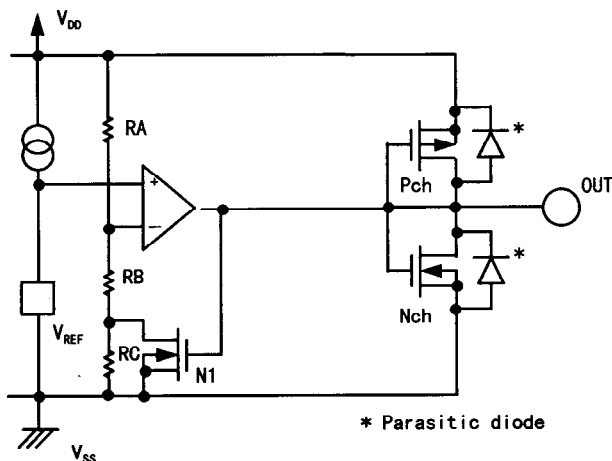
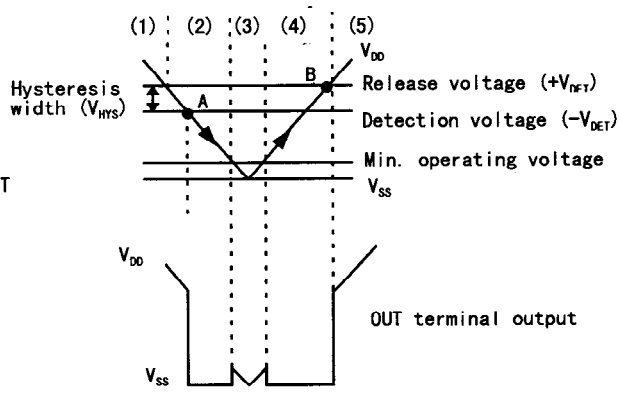

Figure 12
Figure 13
The hysteresis width is the voltage difference between the detection voltage and the release voltage ( $B-A=V_{HYS}$  in Figure 13). By giving a device hysteresis, trouble such as noise at the input is avoided.
- (1) When power supply voltage  $V_{DD}$  is greater than the release voltage  $+V_{DET}$ , the Nch transistor is OFF and the Pch transistor ON, causing  $V_{DD}$  (high) to appear at the output. With the Nch transistor N1 of Figure 12 OFF, the comparator input voltage is  $(RB+RC)/(RA+RB+RC) \times V_{DD}$ .
- (2) When power supply voltage  $V_{DD}$  goes below  $+V_{DET}$ , the output maintains the power supply voltage level, as long as  $V_{DD}$  remains above the detection voltage  $-V_{DET}$ . When  $V_{DD}$  does fall below  $-V_{DET}$  (A in Figure 13), the Nch transistor goes ON, the Pch transistor goes OFF, and  $V_{SS}$  appears at the output. With the Nch transistor N1 of Figure 12 ON, the comparator input voltage is  $RB/(RA+RB) \times V_{DD}$ .
- (3) When  $V_{DD}$  falls below the minimum operating voltage, the output becomes undefined. However, output will revert to  $V_{DD}$  if a pull-up has been employed.
- (4)  $V_{SS}$  will again be output when  $V_{DD}$  rises above the minimum operating voltage.  $V_{SS}$  will continue to be output even when  $V_{DD}$  surpasses  $-V_{DET}$ , as long as it does not exceed the release voltage  $+V_{DET}$ .
- (5) When  $V_{DD}$  rises above  $+V_{DET}$  (B in Figure 13), the Nch transistor goes OFF, the Pch transistor goes ON, and  $V_{DD}$  appears at the output.